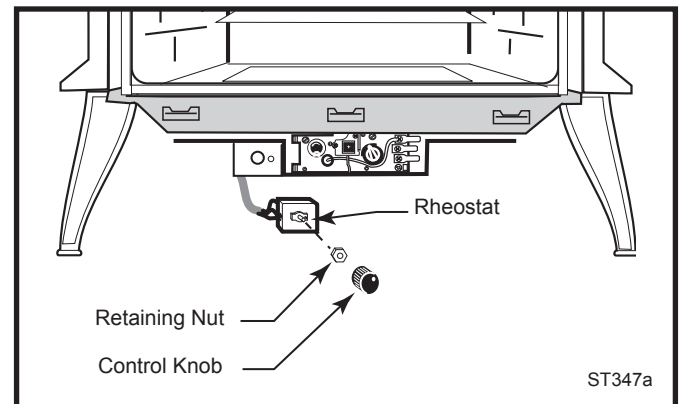

Fig. 11 Attach rheostat.
3. The rheostat control switch attaches to the left side of the valve bracket at the front of the stove. (Fig. 11)